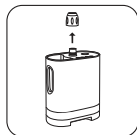

fig.5
2. Unscrew and remove the fastening lock from the base of the steamer. (fig.5)